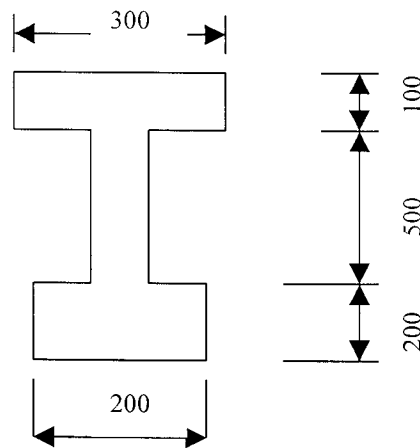

Figure 1
- (b) For the Class 2 prestressed beam shown in Figure 1, check the service stresses at midspan at all stages of loading of the beam. The beam is simply supported and carries a characteristic load of 18 kN/m over a 10m span. Concrete grade is C40 and the prestress is two bars of 22mm dia. and post-tensioning is at 7 days. The ducts are located at 125mm from the bottom of the beam and the web thickness is 100mm. Initial jacking is at 70% of the characteristic strength. Assume a loss factor of 0.1 at transfer and a final loss of 0.2 in the prestress. The density of concrete is 25 kN/m³.